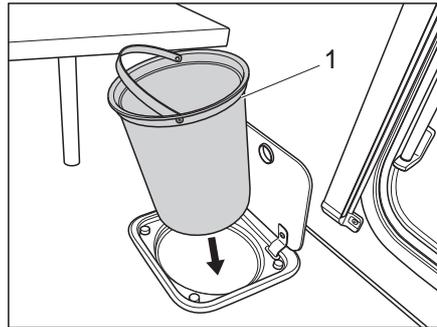

Fig. 169 Waste bin in kitchen
- Remove the waste bin (Fig. 169,1) using the handle and empty in accordance with the applicable regulations.